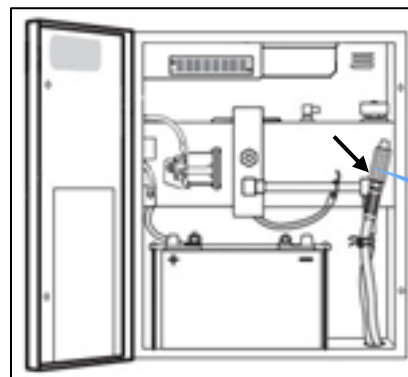

Figure 12
7. Locate the hydraulic fuse “stored” in the end of the hydraulic line inside the control box (Figure 12).